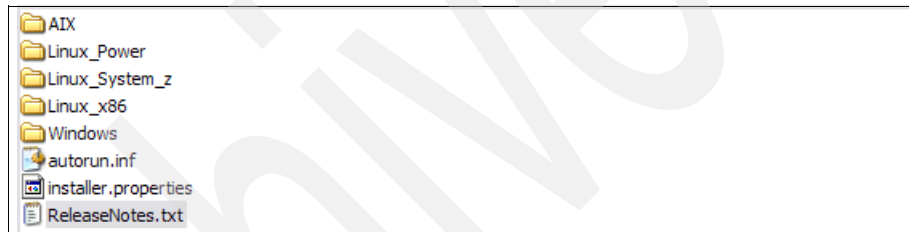

Figure 3-5 Files on the license CD-ROM
1. Insert the license CD-ROM in an optical drive that is accessible by the operating system on which IBM Systems Director 6.1.1 and Active Energy Manager 4.1.1 are installed. The CD-ROM contains the files and directories shown in Figure 3-5.
- b. Copy the installer.properties file from the root of the CD-ROM (see Figure 3-5 on page 81) and paste the file into the directory that you copied to the server in step a (in our example, Linux\_x86). The installer.properties file should now be with the other installation files for that operating system, not the directory one level up.